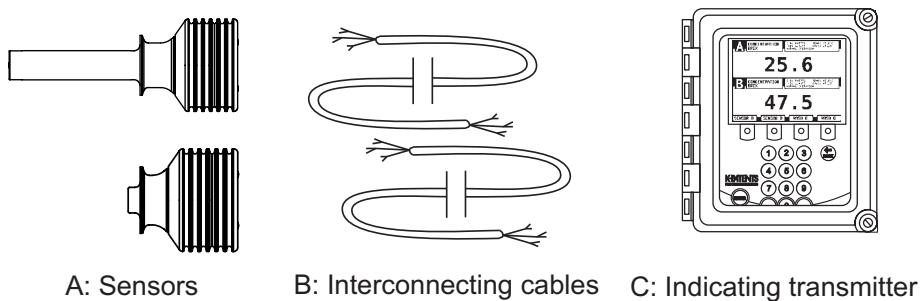

Figure 1.1 Refractometer equipment
The inline refractometer sensor (A in Figure 1.1) measures the refractive index n_D and the temperature of the process medium. This information is sent via the interconnecting cable (B) to the Indicating transmitter (C). The Indicating transmitter DTR calculates the concentration of the process liquid based on the refractive index and temperature, taking pre-defined process conditions into account. The output of the DTR is a 4 to 20 mA DC output signal proportional to process solution concentration. Process data can also be downloaded to a computer via an Ethernet cable.